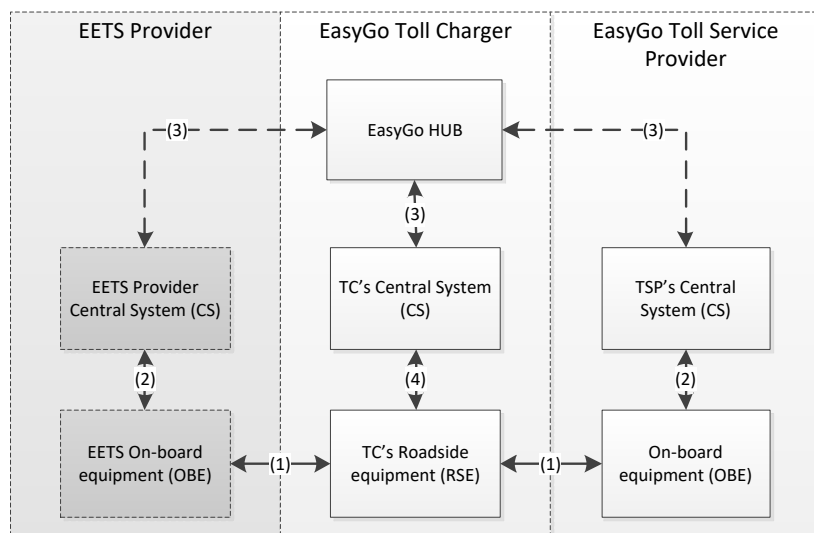

Figure 2 - EasyGo actors and data exchange interfaces subject to testing
Figure 2 below shows the EasyGo actors and the data exchange interfaces subject to testing. The figure also shows the corresponding interfaces to be tested when EETS Providers shall connect to the EasyGo service (or to one or more EasyGo TCs).
- Interface (3) between TSP CS and TC CS via the EGH:
The interfaces (2) and (4) in Figure 2 are internal and thus under the sole responsibility of the respective actor. Interface (2) between the TSP's CS and his OBE is applicable for personalisation purposes and software/firmware updates (if applicable). Interface (4) is between the TC's CS and RSE.